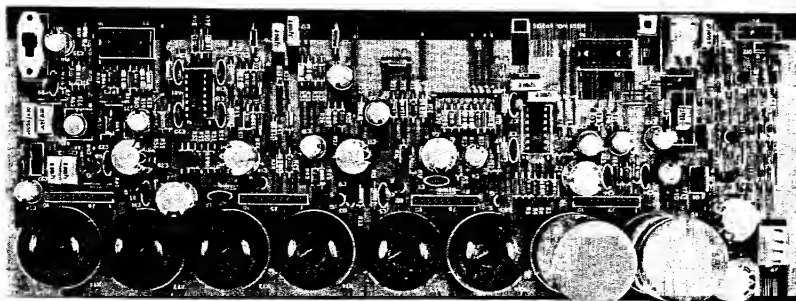

FIGURE 8B
- A. Line 1 — **XT7** (Figure 8B)